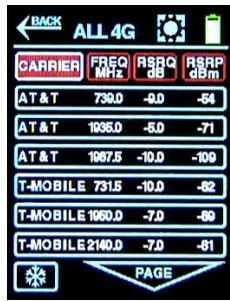

Figure 16
Allow the Octopus to scan for a couple of minutes to populate the data pages. Watch the display screen to freeze the data when you see the most data displayed scan-over-scan. A total of 12 items (6 on each page, total of 2 pages) can be displayed on the Octopus. A total of 15 items could be contained in the download buffer memory of the Octopus for transfer to a PC via the Octopus Download software. See Figure 16 for an example.